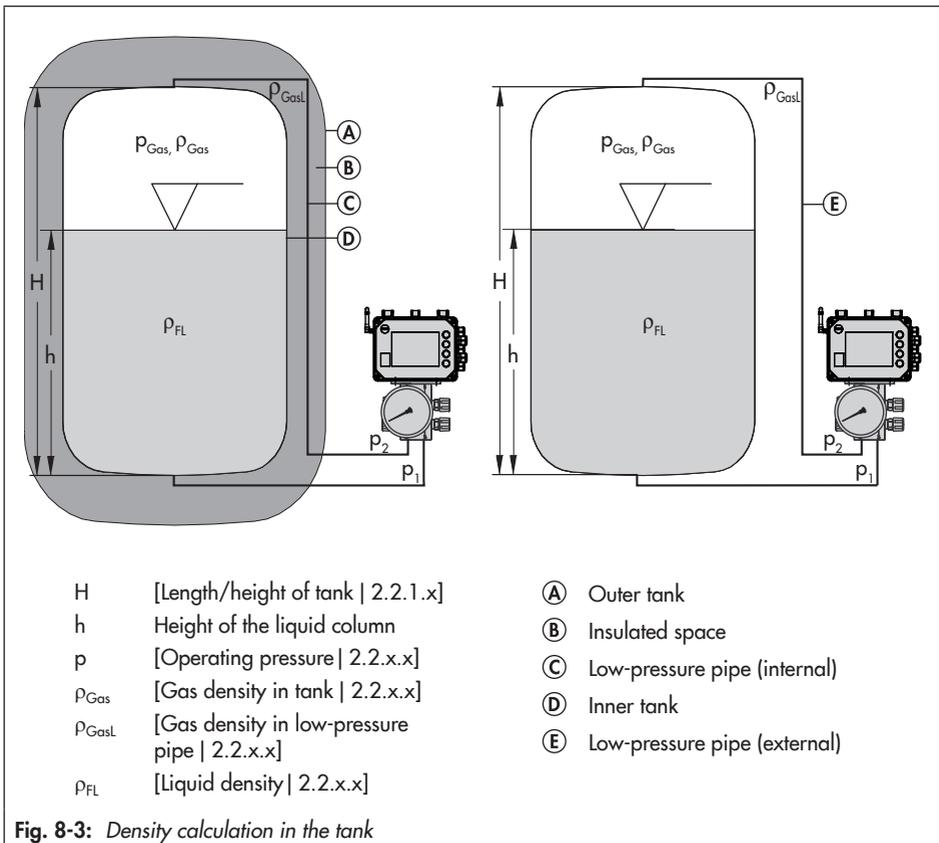

Fig. 8-3: Density calculation in the tank
- The default density calculation is performed manually by the [Calculate densities | 2.2.x.x] parameter based on the parameters listed in Fig. 8-3. Additionally, the density calculation is determined by the process medium ([Medium for density correction | 2.2.2.x] and [Ambient temperature | 2.2.x.x]).